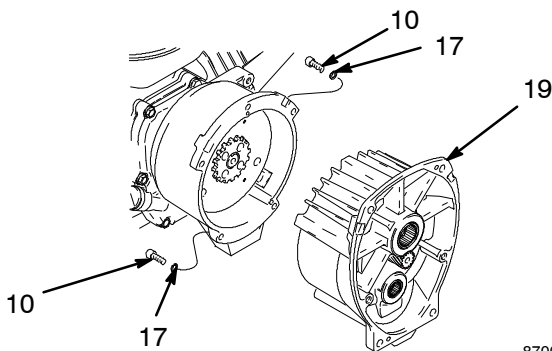

Fig. 5 8700A
4. Fig. 5. Remove five screws (10) and lockwashers (17) and pinion assembly (19).
9. Apply Loctite® to screws. Install four screws (16) and lockwashers (17). Alternately torque screws to 125 in-lb until rotor is secure. Use threaded holes to hold rotor.
10. Fig. 5. Install pinion assembly (19) with five screws (10) and lockwashers (17).
11. Fig. 5. Connect field cable (X) to pressure control.